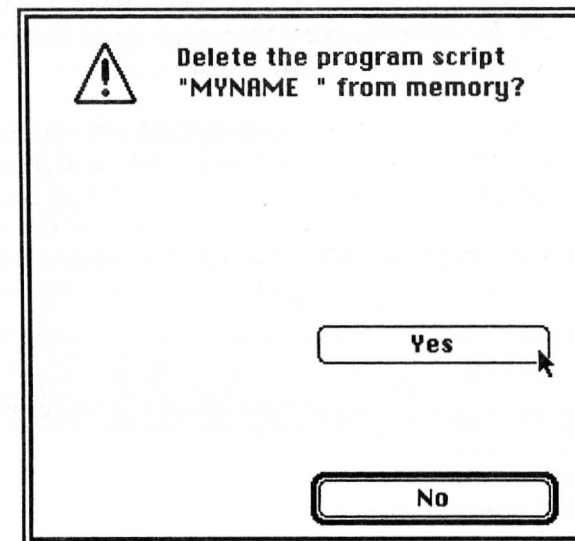

Figure 8-6 Confirm Script Deletion alert box
- ❑ **Delete** button will completely remove the selected script from memory. Before doing so, an alert box will appear to confirm your choice (Figure 8-6). If you saved your script to a file before clicking the *Delete* button, the copy of the script contained in the file will not be affected by this function. The **Delete** button will be grayed out if there are no scripts in memory, or if the selected script is a permanent or locked script (see the next section for more on permanent scripts).